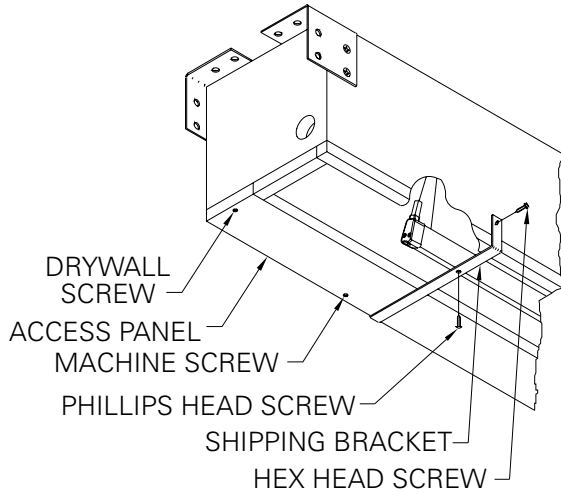

FIGURE 1
3. Carefully remove three shipping brackets by removing six hex head screws from case and three phillips head screws from aluminum slat. Use a phillips screwdriver, a hex socket and a ratchet. Slat should move freely (Fig. 1).
4. Detach access panel by removing screws (Fig. 1).